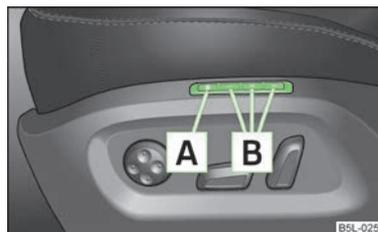

Fig. 45
The memory function for the driver's seat provides the option to store the individual positions of the driver's seat and the external mirrors. A setting position can be allocated to each of the three memory buttons **[B]** » Fig. 45, i.e. three in total.
- Press the button **(SET) [A]** » Fig. 45.
- Press the required memory button **[B]** » Fig. 45.
- Press and hold the desired memory button **[B]** » Fig. 45 for a short while.
- Press and hold any memory button **[B]** » Fig. 45 on page 57. After the seat has assumed the position stored under this button, at the same time press the button **[⏏]** on the remote control key within 10 seconds.
- Press and hold the **[SET]** button **[A]** » Fig. 45 on page 57. At the same time, press the button **[⏏]** on the remote control key within 10 seconds.